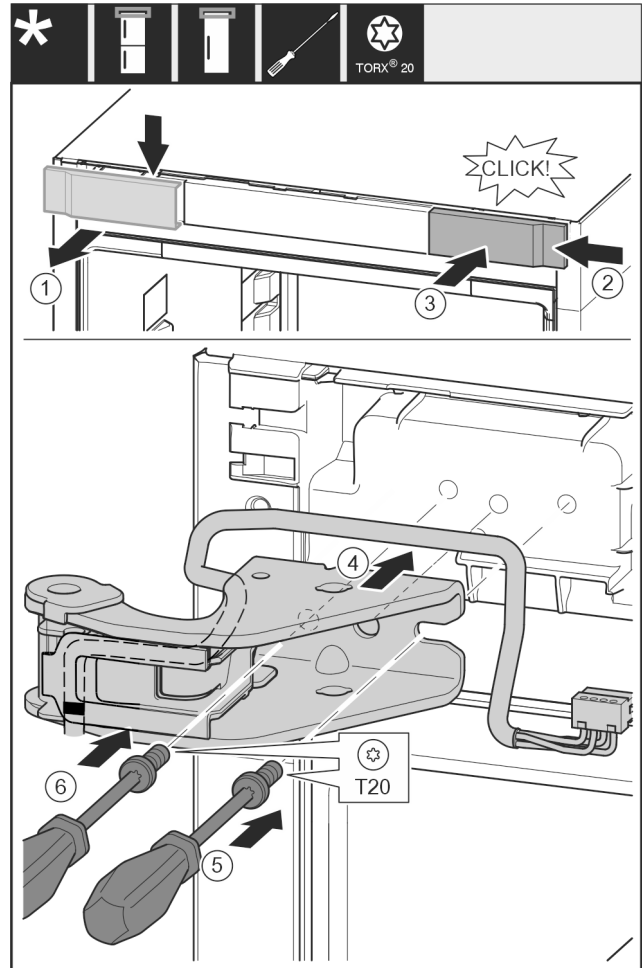

Fig. 30
- ▶ Remove the cover Fig. 30 (1) from the top towards the front.
- ▶ Hang the cover Fig. 30 (2) from the right turned by 180° to the other side.
- ▶ Snap in the cover Fig. 30 (3).
- ▶ Attach the top swap bearing block Fig. 30 (4).
- ▶ Attach and tighten the screw Fig. 30 (5) with a screwdriver.
- ▶ Attach and tighten the screw Fig. 30 (6) with a screwdriver.